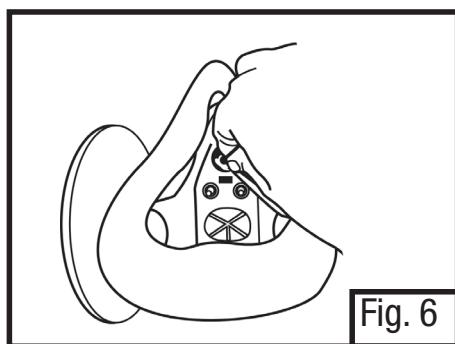

Fig. 6
8. Install the retainer clip and suction cup onto the sampling tube inside the respirator facepiece (Fig. 6).